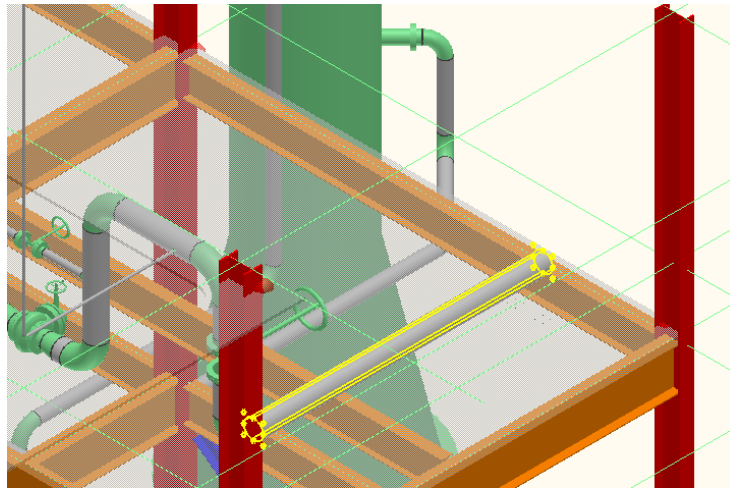

Figure 4: Select Pipe Straight Feature
2. In the select feature smartstep, select the pipe straight feature in pipeline **300-W** that will be supported in an isometric view looking South-East, as shown in Figure 4.